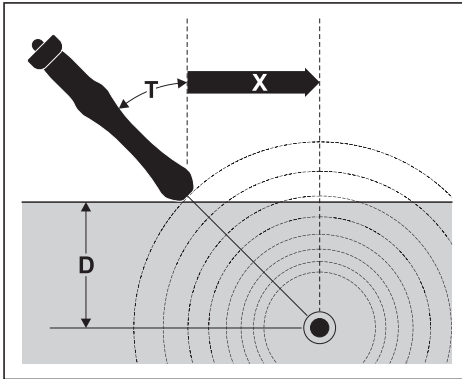

Fig. 18: Determining the offset depth
4. Tilt the receiver to an angle T of between 10° – 60° (Fig. 18).